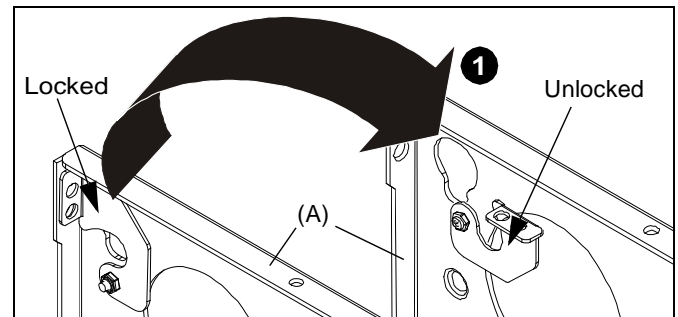

Figure 12
1. With display securely supported, unlock display from TPP (A) by lowering the flag all the way down to the unlocked position. (See Figure 12)